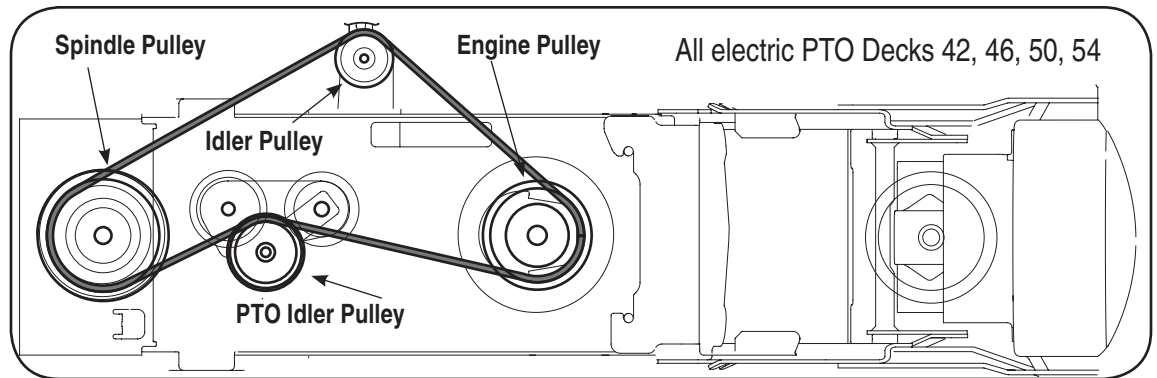

Figure 29
1. Attach and route the upper drive belt around the spindle pulley and idler pulley found on the undercarriage, the electric PTO clutch and the PTO idler pulley as illustrated in Figure 29. Make sure that the belt is routed to the **INSIDE** of the belt keeper on the undercarriage idler pulley and the remaining keeper pins found around the spindle pulley.